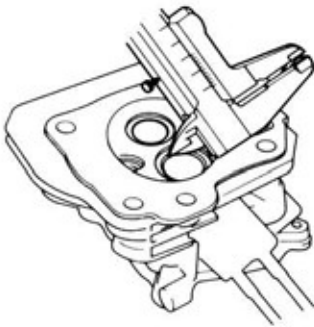

Figure 4-16: Measure Valve Seat Width
6. See Figure 4-16. Use the valve guide driver and install the **new** valve guide from the valve spring side of the cylinder head until the clip is fully seated as shown.